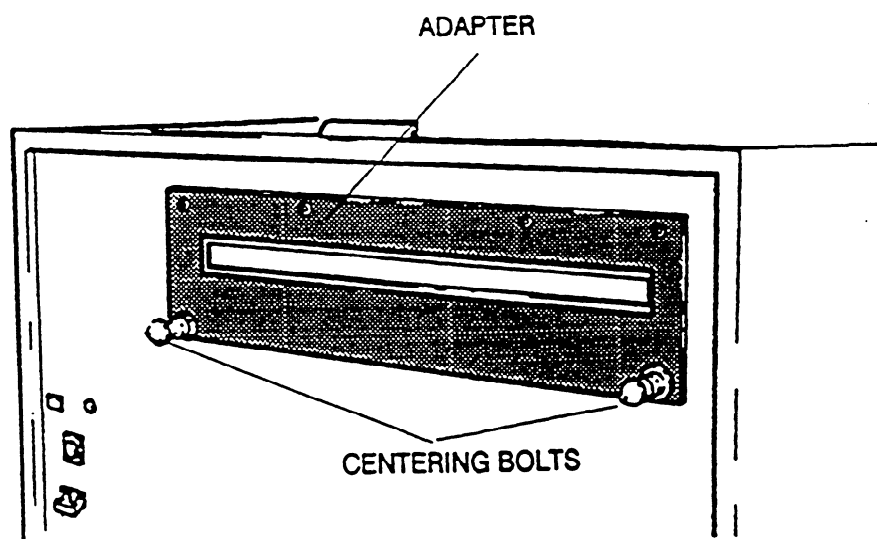

figure 22
2. Check that the 2 CENTERING BOLTS are tight in ADAPTER (see fig. 22).